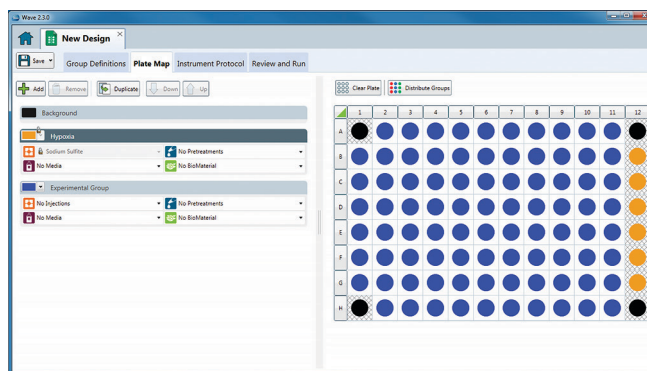

Figure 5. Plate Map tab in Wave Desktop Hypoxia Mode.
- **Plate Map tab:** Assay wells for Background group and Hypoxia group are automatically assigned to the plate map. The Hypoxia group and assay wells are locked from editing Hypoxia group is locked and prepopulated on the Plate Map (Figure 5).